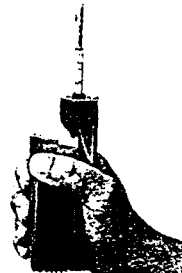

Fig. 7
5. Fully compress the bellows (Fig. 7).